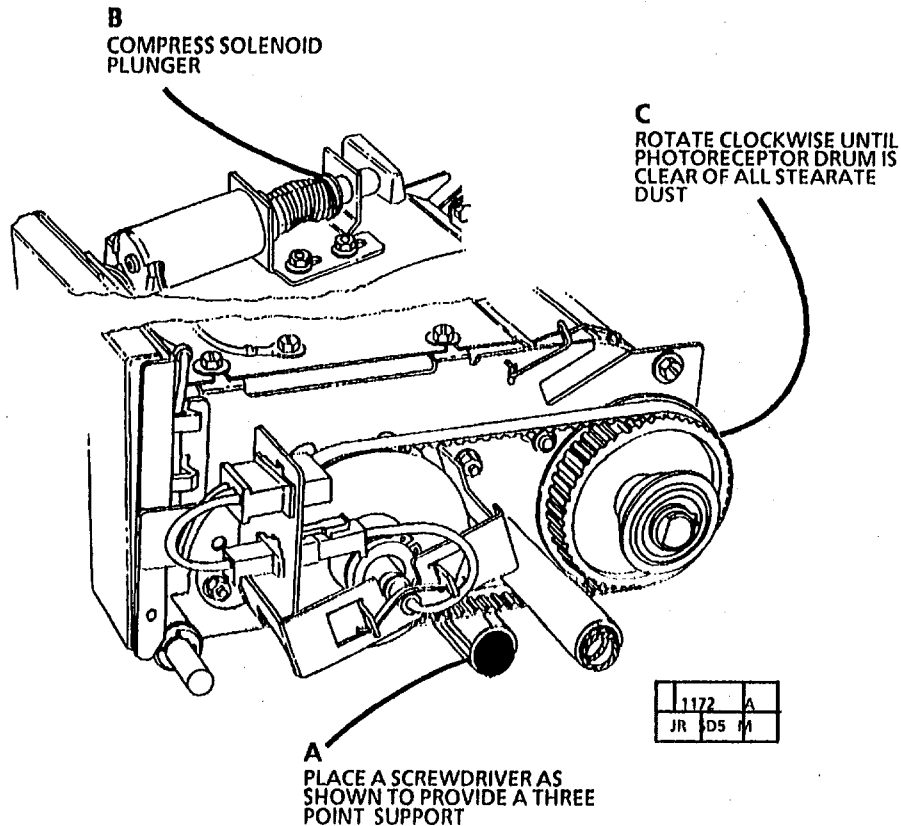

Figure 8. Remove the Stearate from the Photoreceptor Drum
9. (Figure 8): Ensure that the cleaner blade removes the stearate dust from the photoreceptor drum.